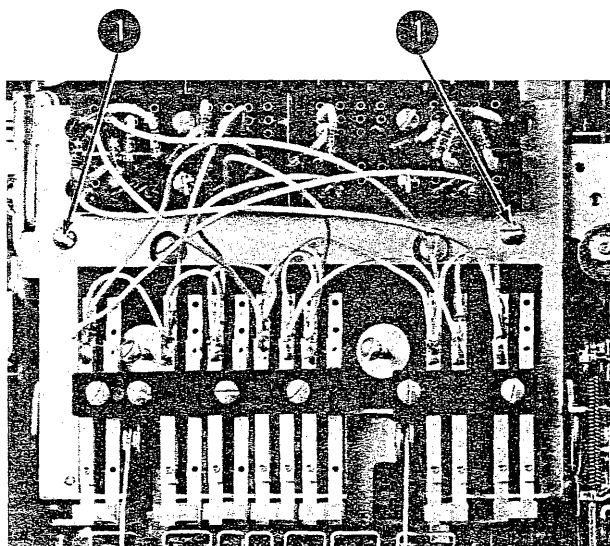

Figure 4-37. Latch-Pusher Removal (Step 1)
1. Remove the two screws (No. 1, Figure 4-37) that hold the contact plate to the frame. Remove the contact plate, holding it to the front with a rubber band. Do not lose the shims, if present.